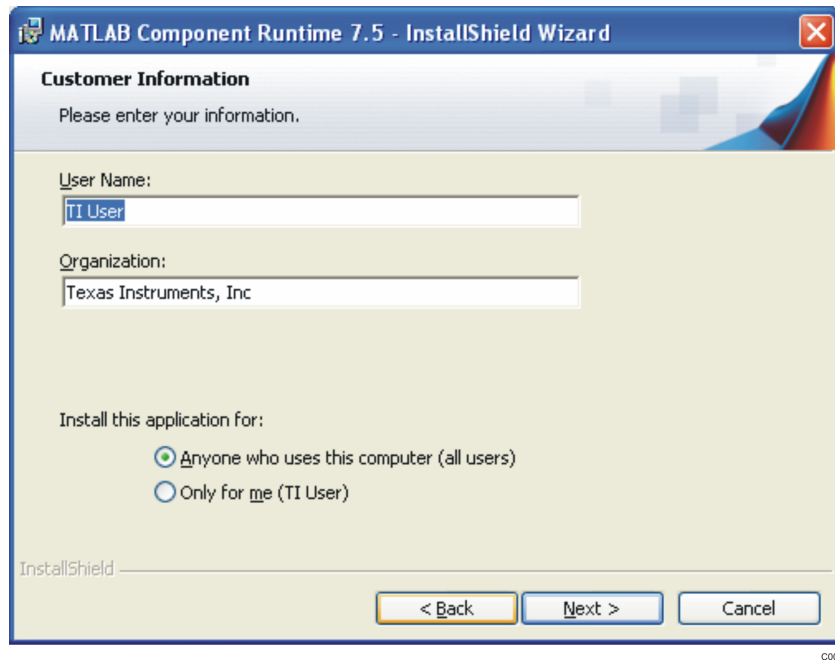

Figure 4. Customer Information
3. For the Customer Information (Figure 4) screen, specify the User Name, Organization, select the desired user option button, and click Next.